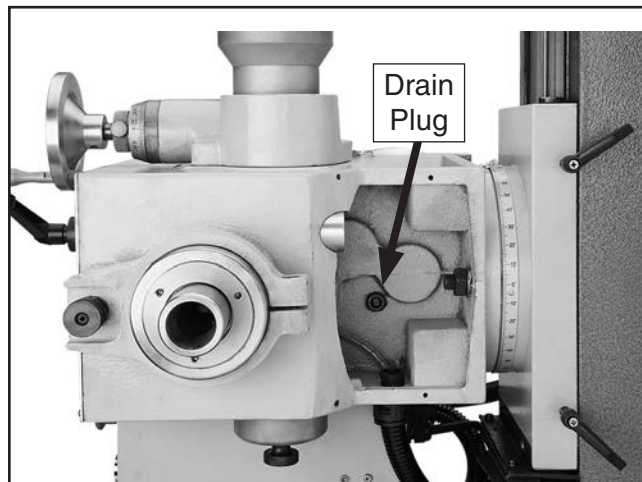

Figure 39. Headstock drain plug (headstock tilted 90° for clarity).
5. Remove drain plug (see **Figure 39**) from underneath headstock and allow oil to drain into pan.